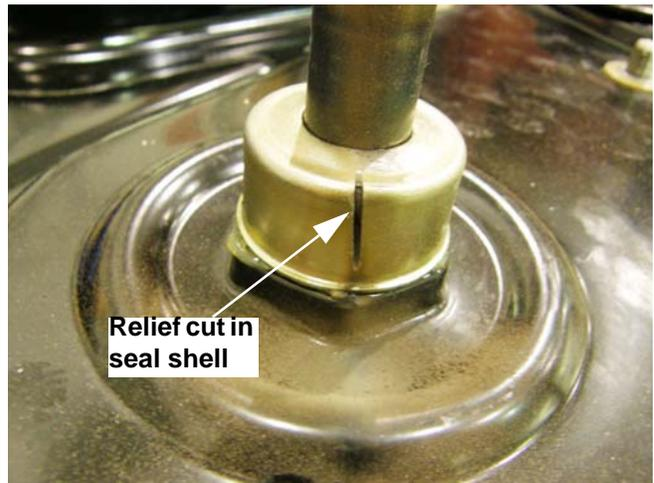

Figure 5.18
- Cut the seal housing to relieve tension. It does not need to be cut all the way through. See Figure 5.18.